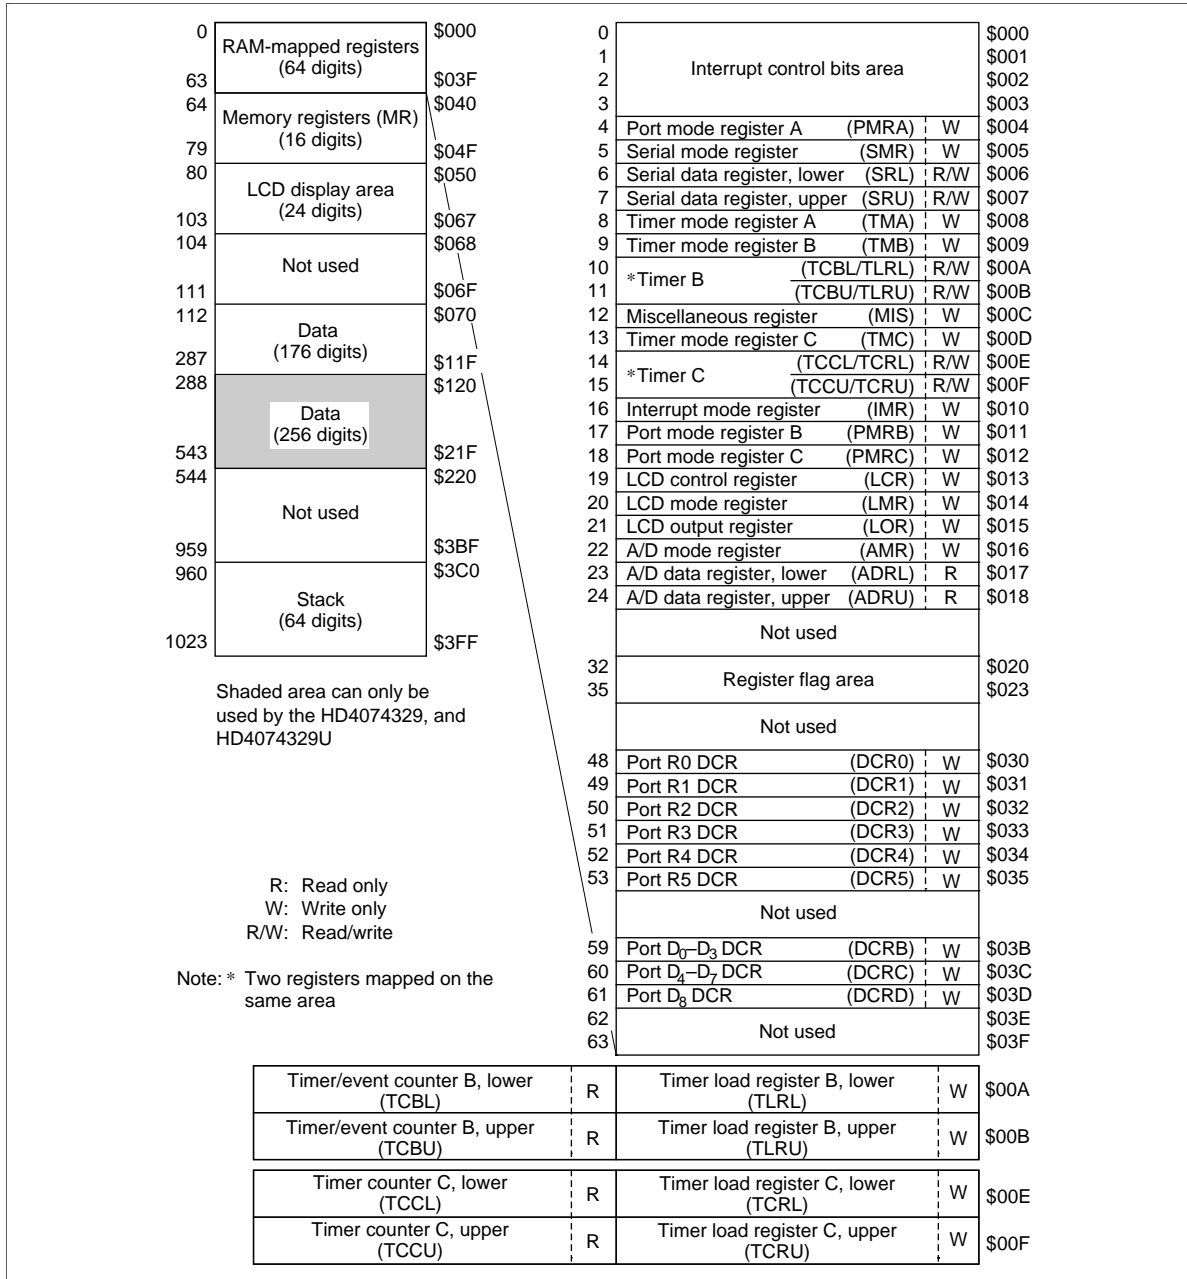

Figure 2 RAM Memory Map
The MPU contains a 280-digit × 4-bit (HD404324, HD404324U, HD404326, HD404326U, HD404328, HD404328U) or 536-digit × 4-bit (HD4074329, HD4074329U) RAM area consisting of a data area and a stack area. In addition, interrupt control bits and special registers are mapped onto the same RAM memory space outside this area. The RAM memory map is shown in figure 2 and described below.
**Special Function Registers Area (\$004–\$01F, \$024–\$03F):** Used as mode registers for external interrupts, serial interface, and timer/counters, and as data registers and as data control registers for I/O ports. As shown in figure 2, these registers can be classified into three types: write-only, read-only, and read/write. The SEM, SEMD, REM, and REMD instructions can be used for the LCD control register (LCR), but RAM bit manipulation instructions cannot be used for other registers.